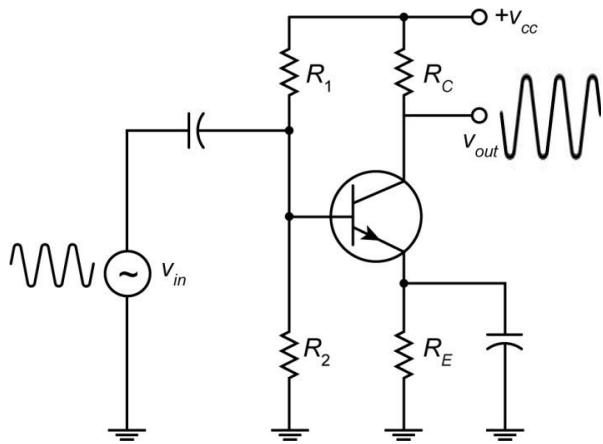

Fig. 5.10: Common emitter amplifier.
Fig. 5.10 shows a common emitter (CE) amplifier. A small sine wave is applied at the input. This produces variations in the base current. Because of current gain β , the collector current is an amplified sine wave of the same frequency. This sinusoidal collector current flows through the collector resistance and produces an amplified output voltage.